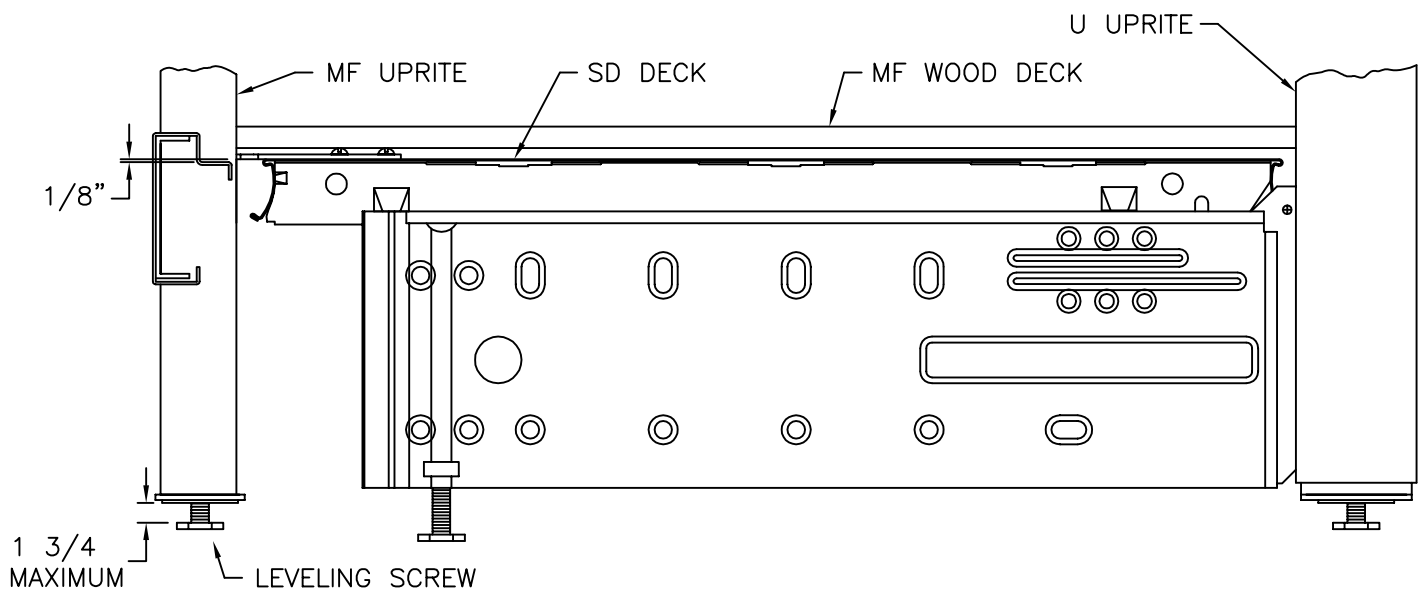

FIGURE 6
STEP 5: If Multi-Function Wood Decks (MFD) are to be used, install a MF Front Beam (MFFB) 1/8" lower than the level of the SD Deck (SEE FIGURE 6).